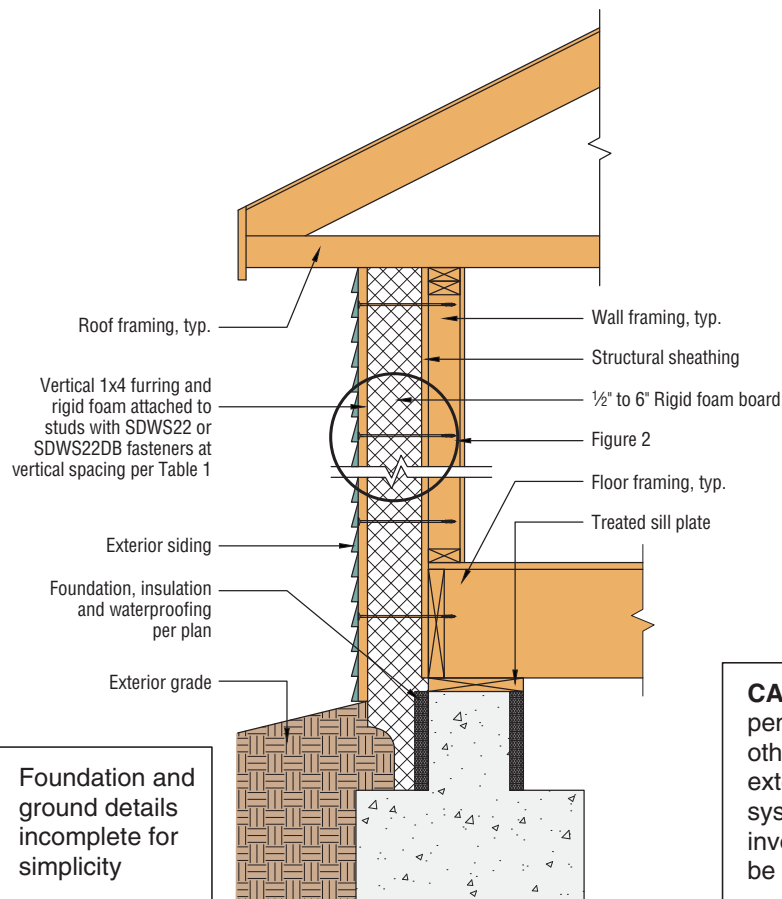

Figure 1: Wall Cross-Section
- Minimum fastener spacing requirements: 6" end distance, 1 7/8" edge distance, 5/8" between staggered rows of fasteners, 4" between non-staggered rows of fasteners and 8" between fasteners in a row. See Figure 1.